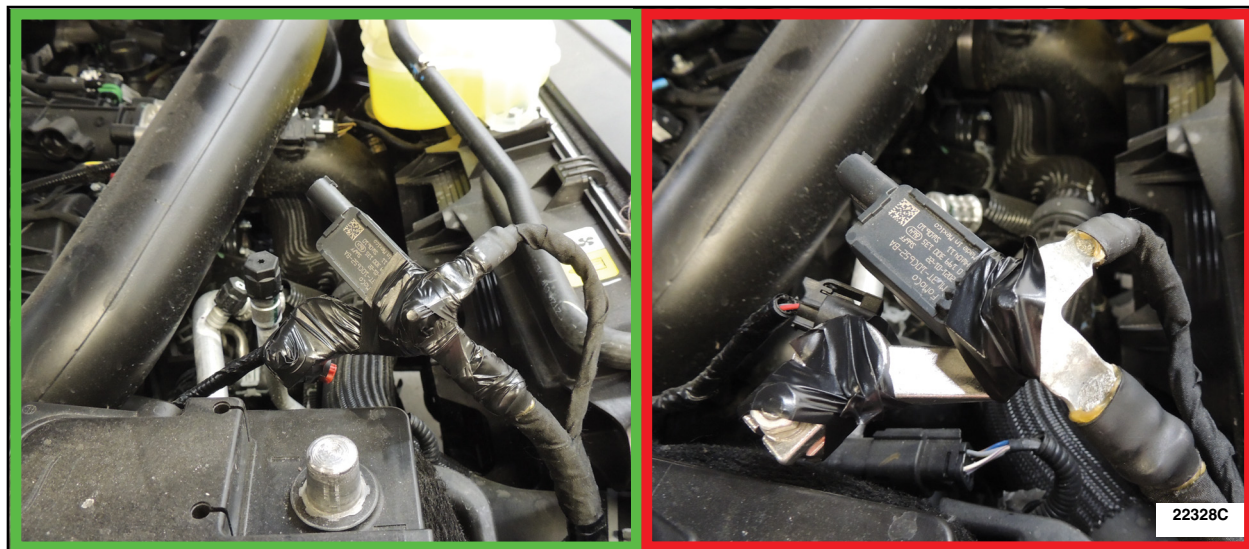

FIGURE 3
6. Apply electrical tape to sufficiently cover the negative battery cable. See Figure 3.